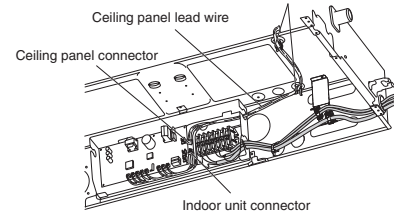

Fig. 7-10
- (2) Fasten the wiring connector (7P, red) that emerges from the ceiling panel using the lead wire clamps on the indoor unit side (2 locations). Then connect it to the connector in the indoor unit electrical component box. (Fig. 7-10)